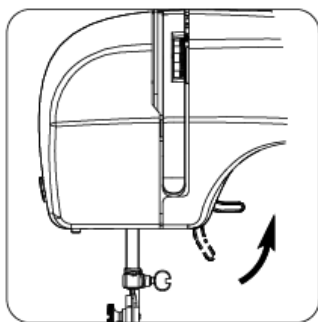

Fig.15
2. Raise the presser foot lifter and place the fabric you want to sew under the presser foot (Fig.15).